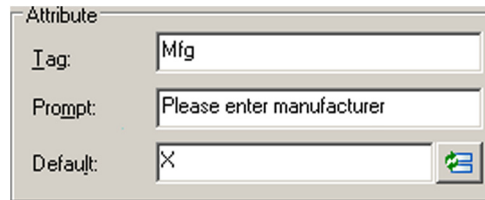

FIGURE 18.4
- For Default, type in X (this is the generic placeholder), as seen in Figure 18.4.